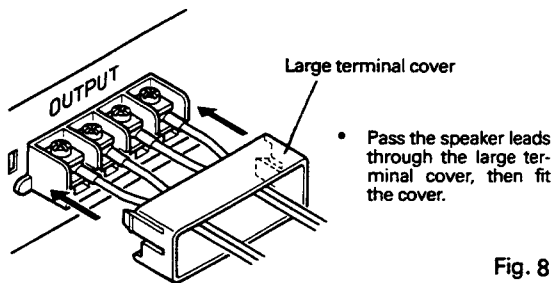

Fig. 8
4. Fit the large terminal cover. (Fig. 8)